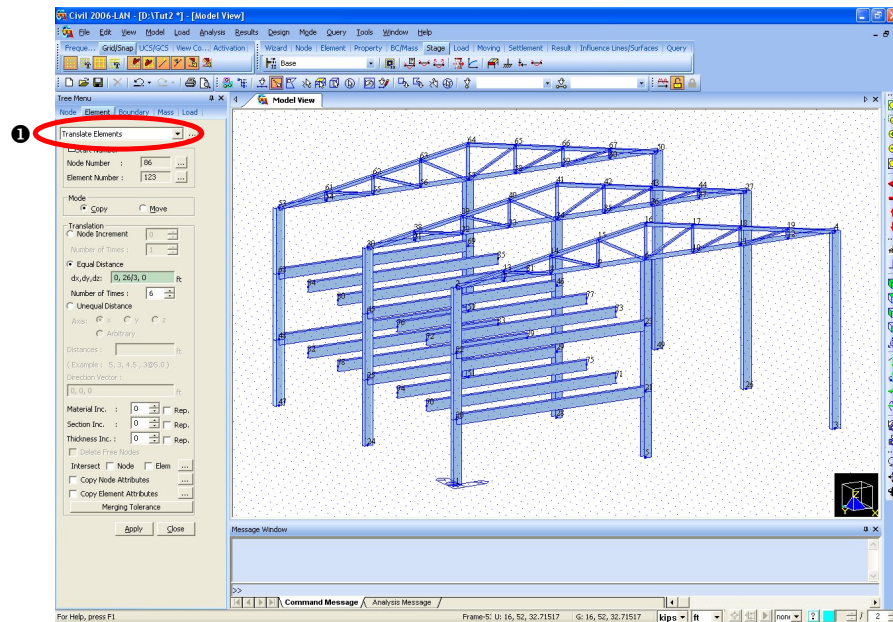

Figure 2.9 Duplicated 3-D Frame
5. Select **Translate Elements** in the functions selection field (Fig.2.9–**1**).